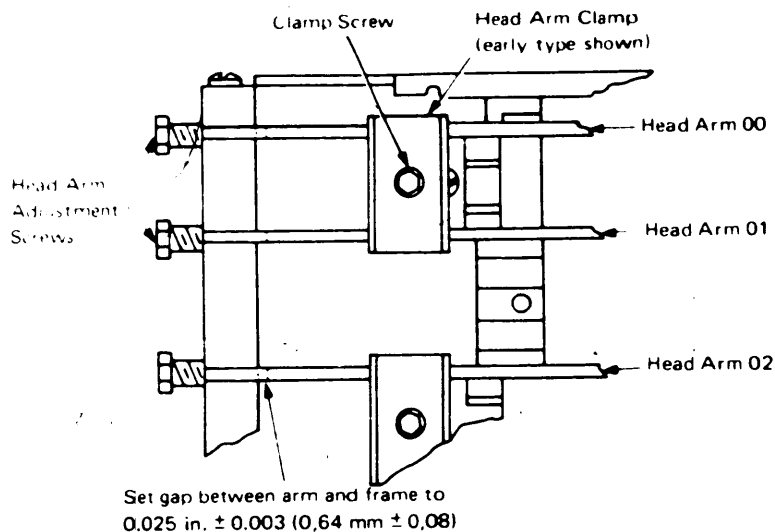

Figure 2-36. Head Arm Alignment, using CE Cartridge Track 073 [07559A]
2. Insert a 0.025 in. (0.64 mm) feeler gage between rear of arms and carriage casting (see Figure 2-36), then tighten the clamp screw to 4 lb in. (4.6 kg cm) with torque wrench, part 2597969, and 6-flute adapter, part 2597971.
5. Take off appropriate head arm clamp (see Figure 2-36).